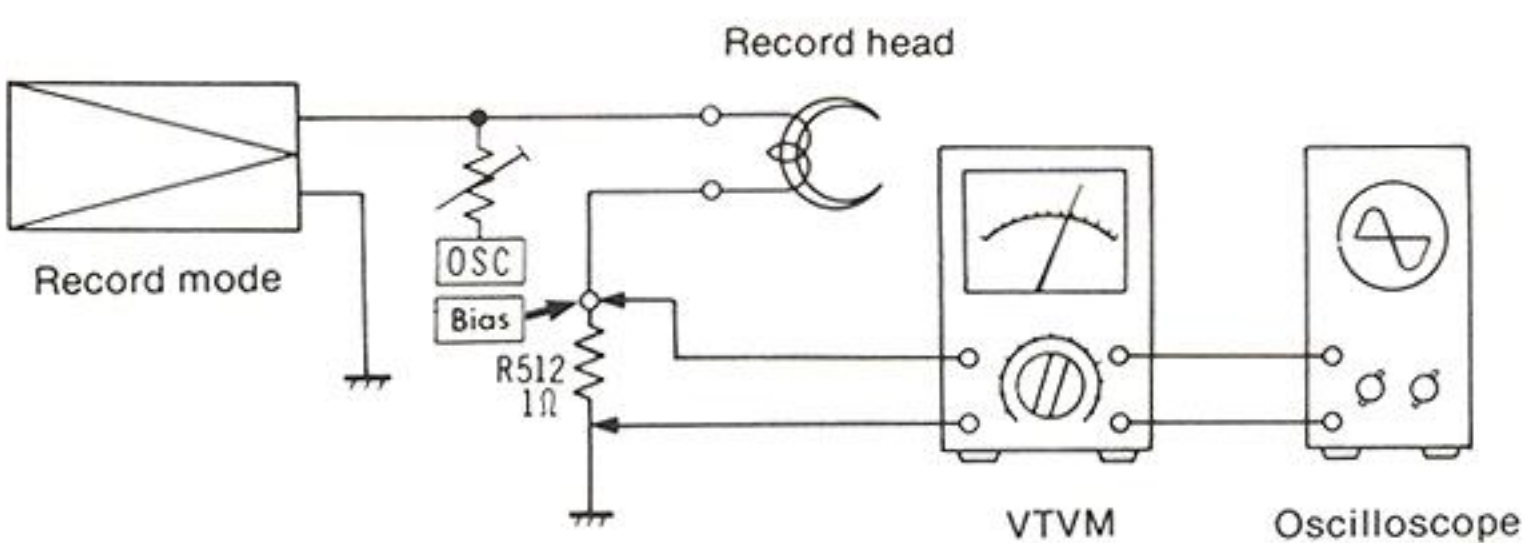
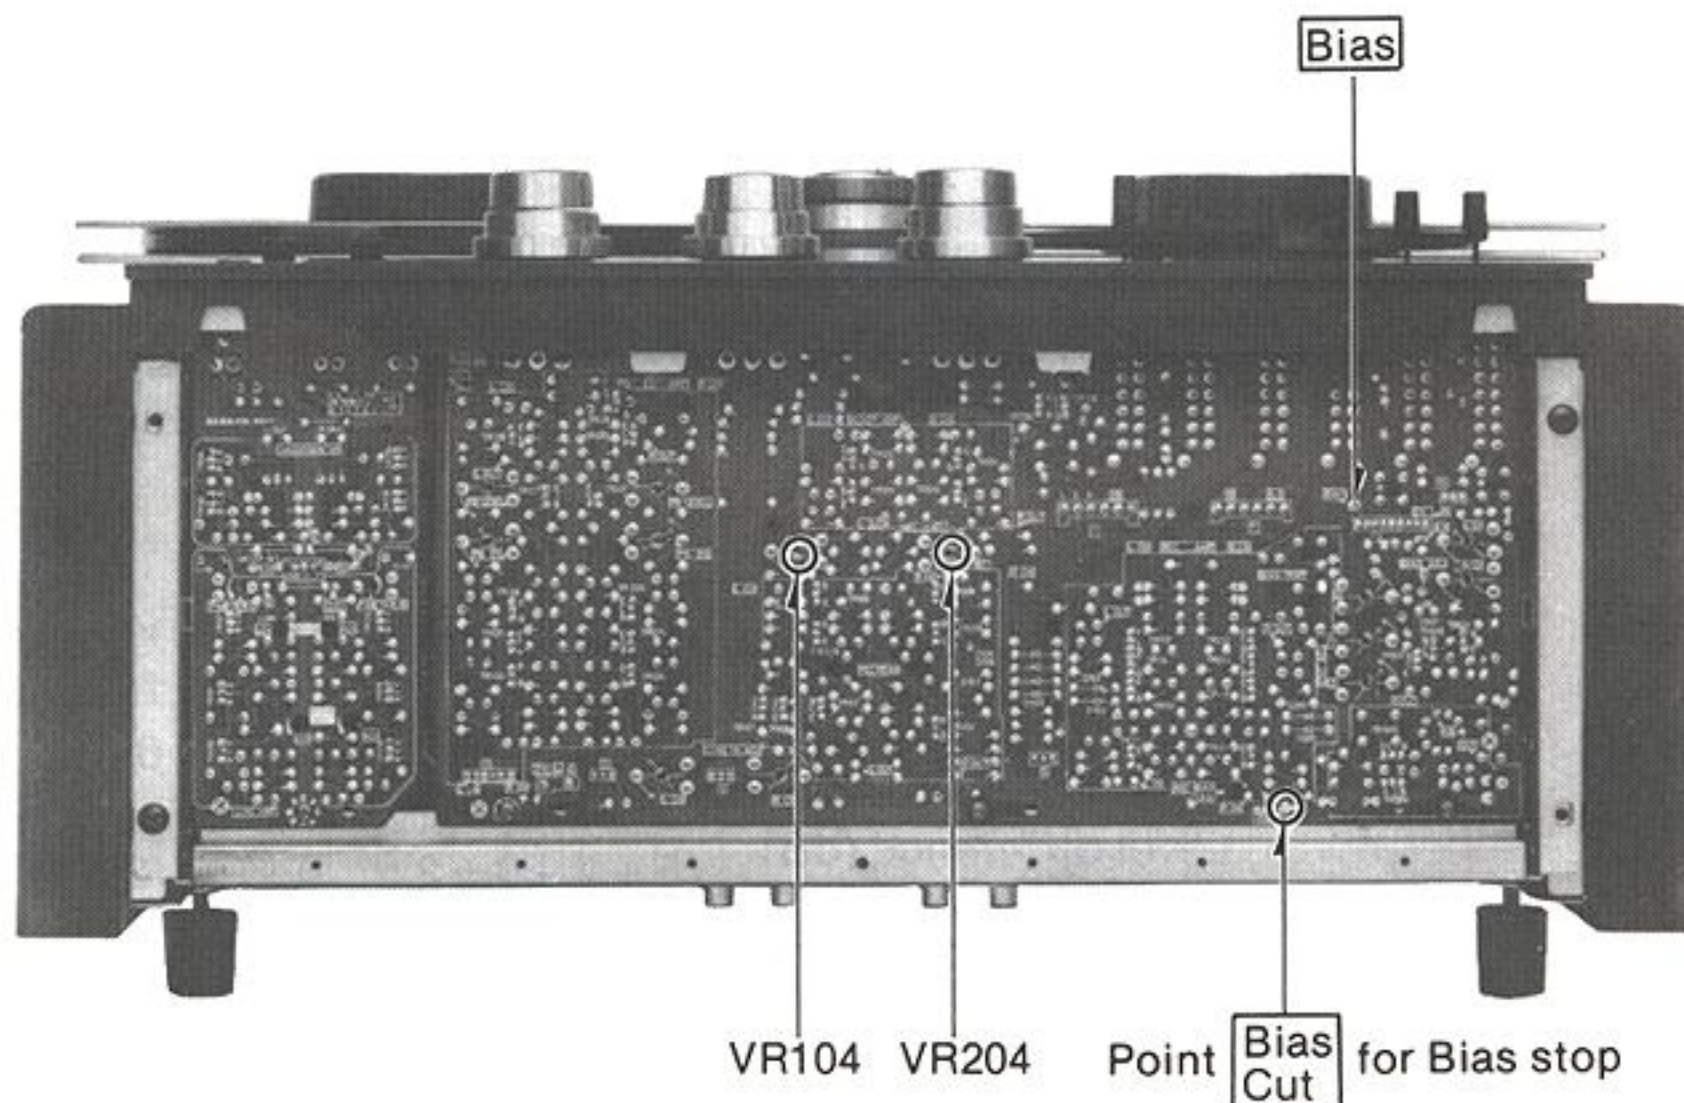

Fig. 49
Fig. 50
Bias current	1. Test equipment connections are shown in fig. 49. 2. Set the bias selector to "2" position. 3. Set the tape speed to 38 cm/s. 4. Set the unit to the recording mode. 5. Set the recording mode selectors: L-CH to ON and R-CH to OFF. 6. Measure voltage across R512 (1Ω) (at point Bias) shown in fig. 50. 7. Next set the record mode selectors: R-CH to ON and L-CH to OFF. 8. Measure voltage at point Bias. 9. Bias current is calculated by formula below. $\text{Bias Current} = \frac{\text{Voltage read on VTVM}}{1\ \Omega} \quad (\text{V})$ Standard value at 38 cm/s tape speed and at "2" position of Bias Selector: around 3 mV 10. Next set bias selector to "1" position, and measure the bias current in the same way as described in steps 3 to 9 above. 11. Confirm that the bias current is 10% less than at the "2" position of the bias selector. 12. Next set bias selector to "2" position and confirm that bias current is 10% greater than at the "2" position of the bias selector. In the same way, measure bias current at 9.5 cm/s tape speed. (Standard value at "2" position of bias selector is around 2.6 mV.)
Recording current	1. Test equipment connections are shown in fig. 49. 2. Stop the bias oscillation by unsoldering the connection point Bias Cut for bias current ON/OFF shown in figure 50. 3. Thread blank test tape QZZORA218EX. 4. Set the tape selector to "38" position. 5. Set the equalizer selector to "2" position. 6. Supply 1 kHz signal (– 24 dB ± 3 dB) from AF oscillator, through ATT, to LINE-IN jacks, and adjust ATT until source monitor level at LINE-OUT jacks on VTVM becomes 0.55 V. 7. Set the recording mode selectors to "ON" (L-CH) and "OFF" (R-CH). 8. Place unit into recording modes.
1. Test equipment connections are shown in fig. 49.
Overall gain	1. Test equipment connections are shown in fig. 36. 2. Thread blank test tape QZZORA218EX. 3. Supply 400Hz signal ($-24 \pm 3\text{dB}$) from AF oscillator, through ATT, to LINE-IN jacks. 4. Adjust ATT so that the output level at LINE-OUT jacks on VTVM becomes 0.55V. 5. Place unit into recording mode. 6. Set the monitor selector to "Tape" position (both channels). 7. Then, measure the output level at LINE-OUT jacks when VTVM indicates 0.55V. [Adjustment] 1. If the measured value is not satisfied, adjust the overall gain adjustment VR, VR104 (L-CH) and VR204 (R-CH) shown in figure 50.